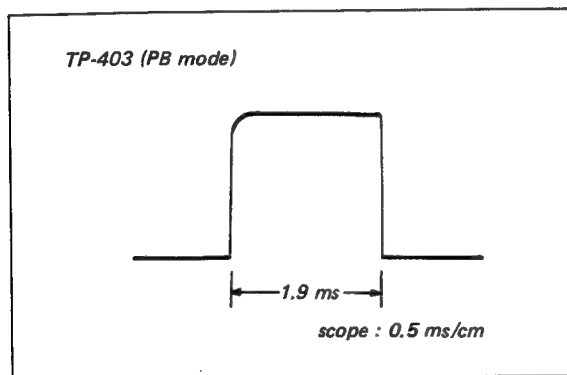

Fig. 6-11. Delay multivibrator adjustment (PB mode)
Adjust for: A pulse width of 1.9 msec. See Fig. 6-11.
4. Adjust R412 (PB Lock Phase) to produce 1.9 ms pulse width as shown in Fig. 6-11.